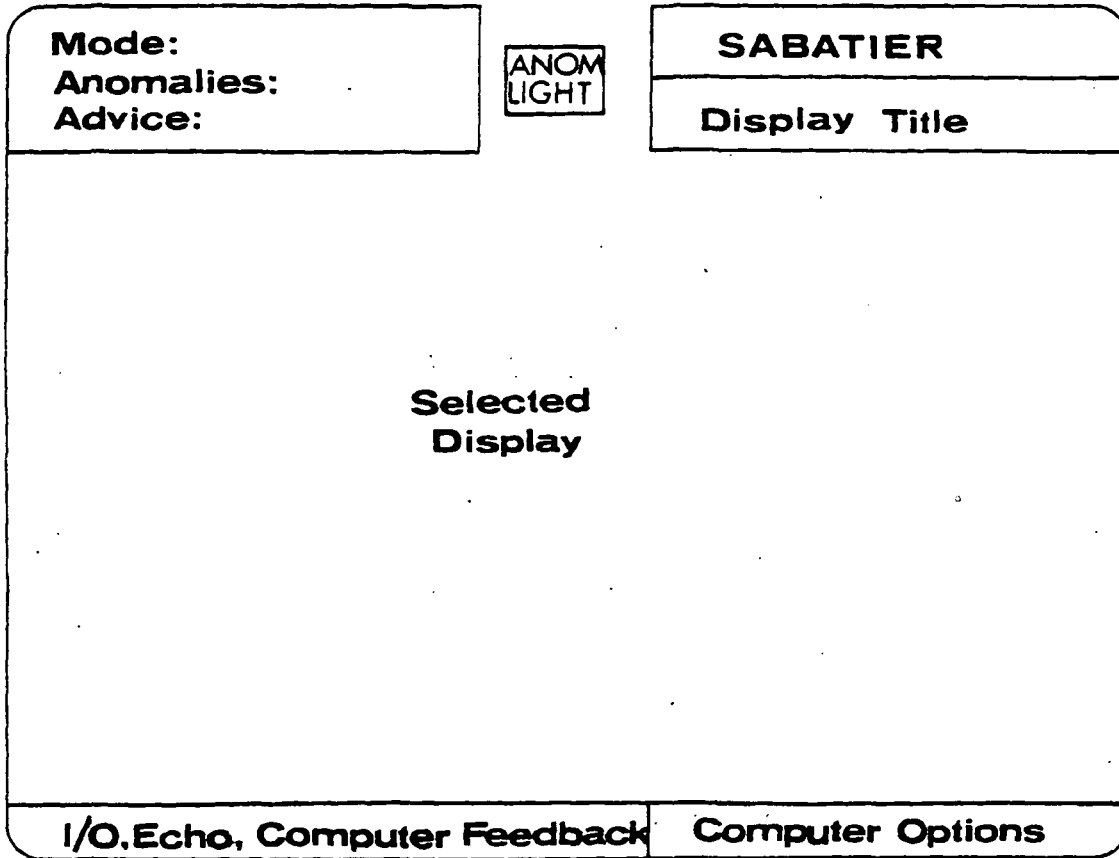

FIGURE 4
A multi-colored Cathode Ray Tube (CRT) display format shown in Figure 4 provides a continuous readout of system mode, any subsystem anomalies or advice system status, and operations instructions. Any one of six visual displays of appropriate data can be selected. These are:
- Step 6 - The performance diagram of the subsystem can be monitored by pressing the "DISPLAY" key on the keyboard as noted in the lower right hand portion of the CRT screen. This area is noted as "Computer Options" in Figure 4. It defines the keyboard instructions required to select the information or subsystem control desired.